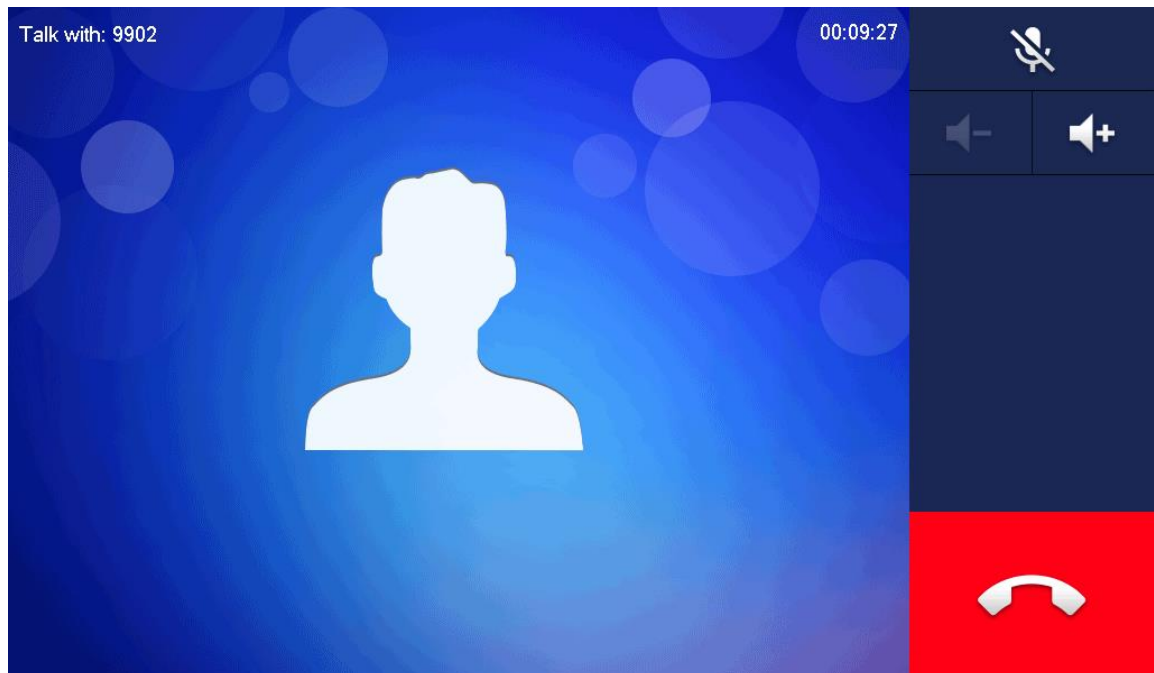

Figure 6-33
- Press  to talk with each other, as shown in Figure 6-33. For key description, please refer to Table 6-5.